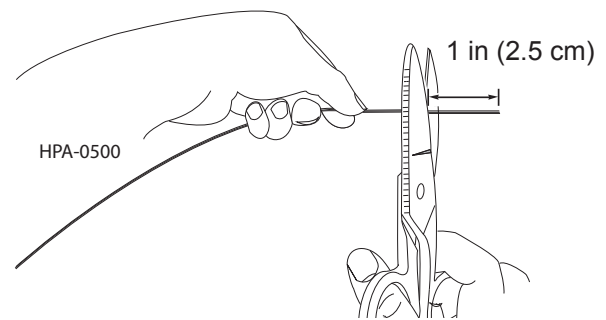

Figure 16
Step 5: Use scissors to trim 1 inch (2.5 cm) from the end of the fibers. The fibers are now ready to be cleaned and terminated (Figure 16).